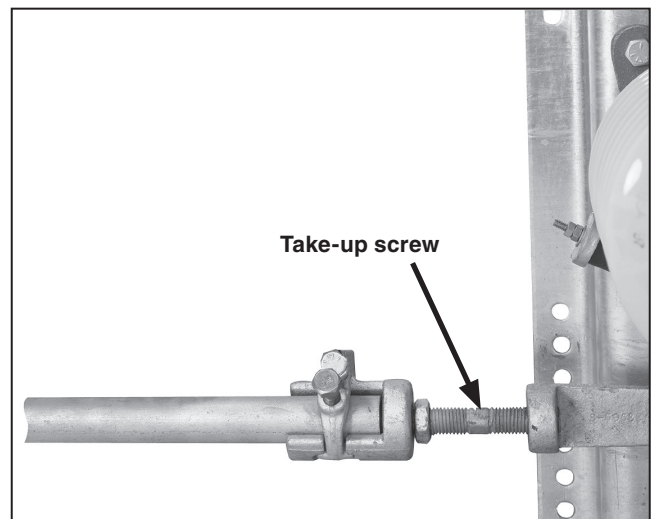

Figure 11. Take-up screw of adjustable pipe-coupling.
STEP 9. Tighten the take-up screws of the adjustable pipe couplings to remove all play in the inter-connecting linkage. See Figure 11. Make sure the switch-pole toggle mechanisms remain against their closed stops.